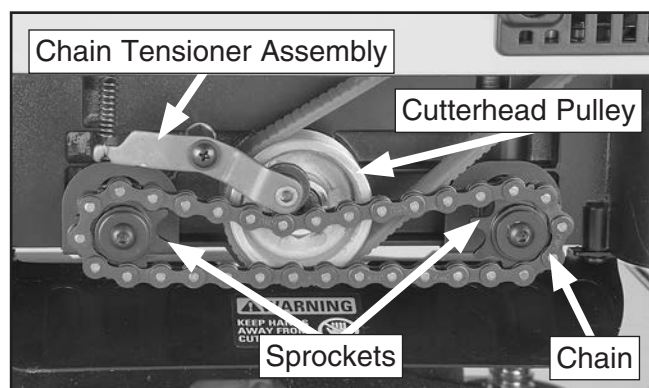

Figure 6. Pulley area components.
13. Remove chain tensioner assembly (see **Figure 6**).
14. Remove sprockets and chain (see **Figure 6**).